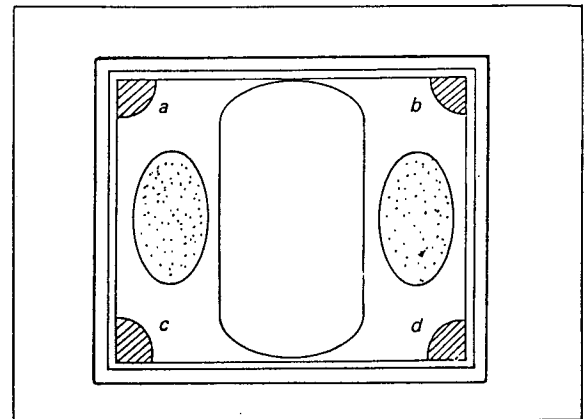

Fig. 3-2. Overall check and adjustment of purity
4. Move the deflection yoke back and forth to adjust beam landing in the areas marked  in Fig. 3-2 using a microscope to check the results.
6. Turn the purity control knob to adjust beam landing in the area marked  in Fig. 3-2.
7. Check for possible mislanding in areas marked  in Fig. 3-2 using a microscope.
9. If mislanding is observed at the corners as shown in Fig. 3-2, adjust beam landing by applying disk magnets.